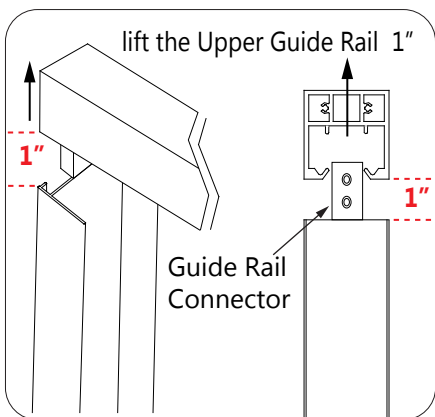

Fig 12a
12. Have an assistant carefully lift one end of the **Upper Guide Rail (#02)** no more than 1", just to the top of the **Upper Guide Rail Connector (#07)**. Use a 1" wood block or shim to hold the guide rail in this position until after both doors are installed. **(Fig 12a and 12b)**